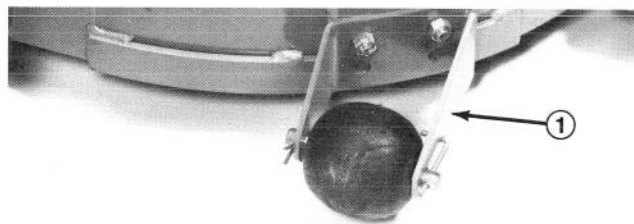

Figure 9
Note: If cutting unit is to be used in 1 in. (25 mm) or 1-1/2 in. (38 mm) height-of-cut setting, rear cutting unit rollers must be positioned in the appropriate bracket holes (Fig. 9 & 10).
1. Remove nuts securing rear rollers to outside of cutting unit (Fig. 9).